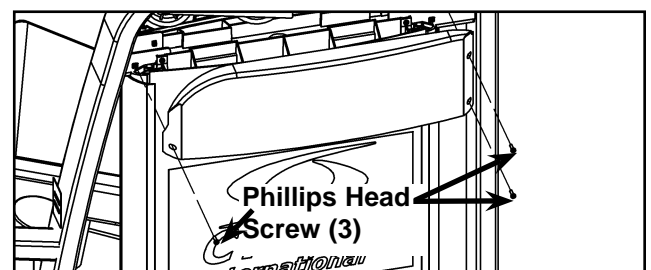

Figure 13
- C. Install the three Phillips head screws securing the top (back) shroud. See Figure 13.